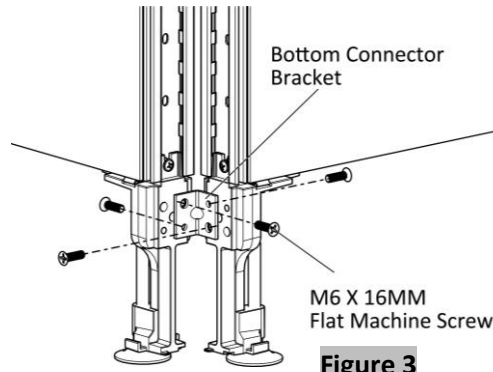

Figure 3
5. Securely fasten the bottom corner bracket into the panel legs with four M6 X 16MM Flat Machine Screws, (Figure 3).